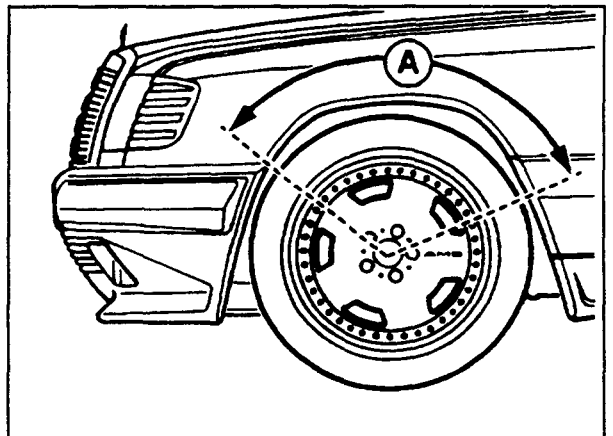

Figure 18
10. The fender lip is reworked over the entire area (A, Figure 18) in several stages. A plastic hammer must be used to avoid damaging the paint.